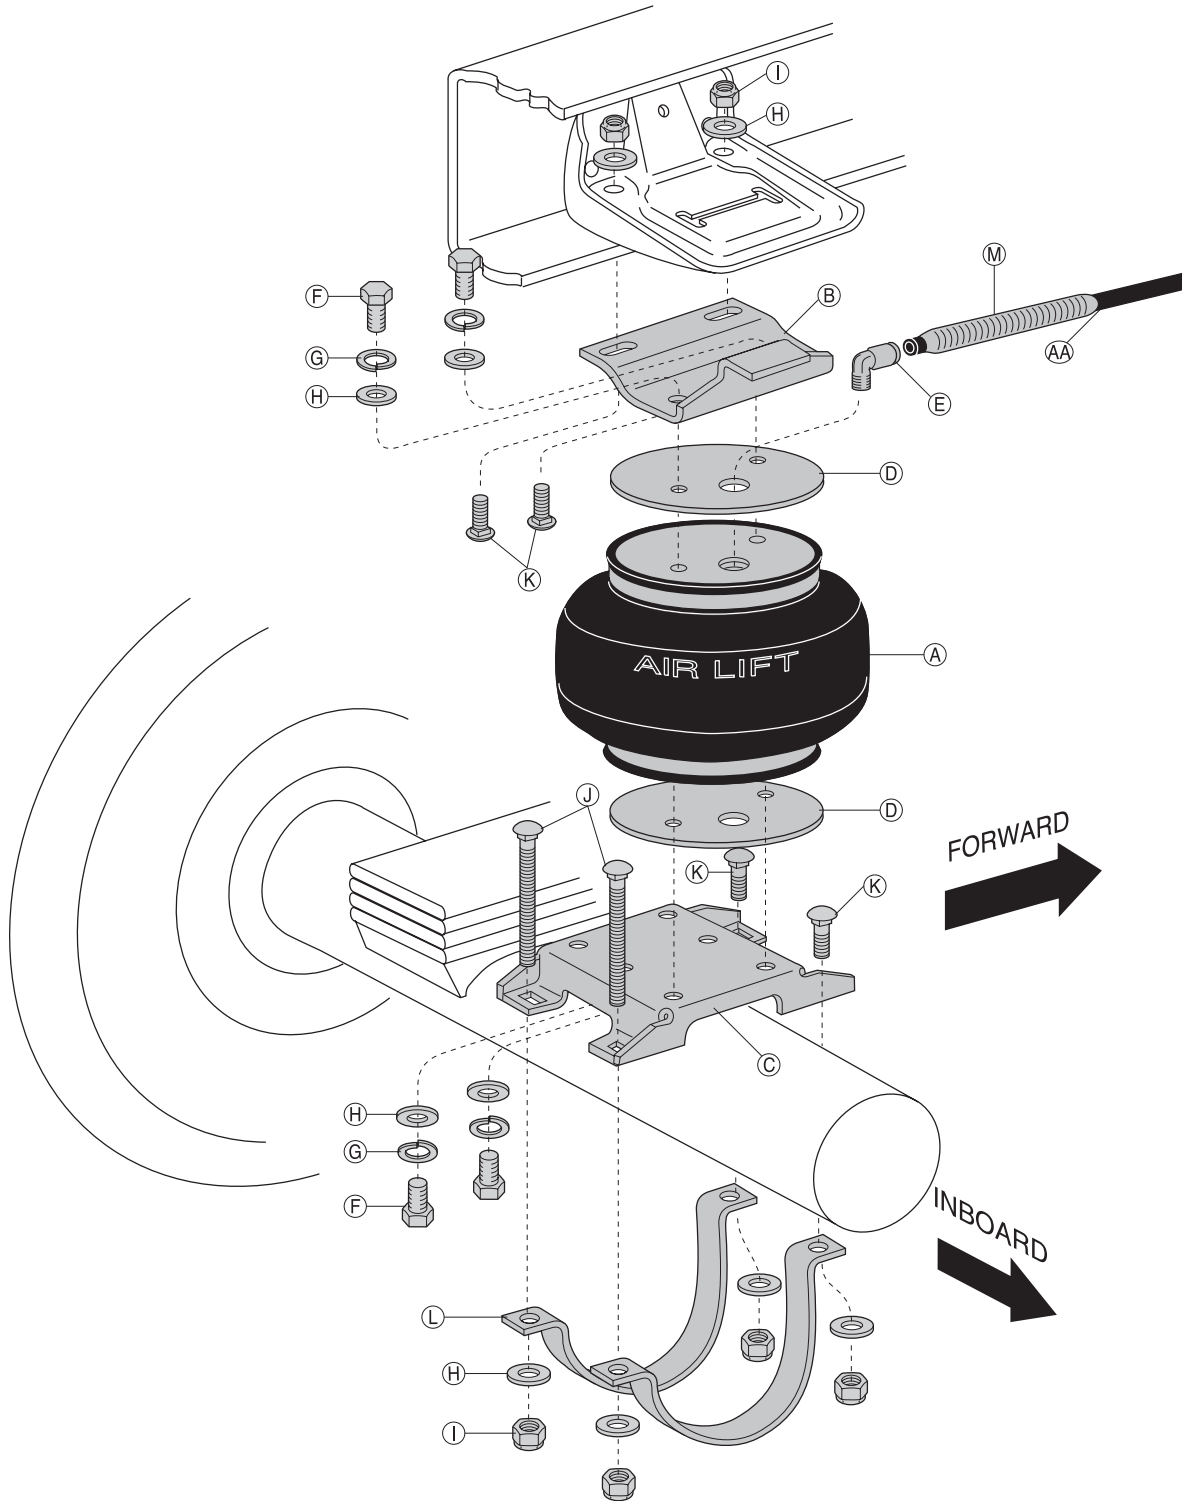

fig. 1
(* not shown in Fig. 1)
4. Insert two short carriage bolts (K) into the upper bracket (Fig. 1).
6. Secure the upper bracket to the frame and jounce bumper bracket using a flat washer (H) and nylock nut (I) on each carriage bolt (Fig. 1).
1. Install two 3/8 " x 1.5" carriage bolts (K) in the two forward facing holes of the lower bracket (Fig. 1).
2. Install two 3/8 " x 3.5" carriage bolts (J) in the rearward facing holes of the lower bracket (Fig. 1).
3. Install the J-straps (L) with the long leg to the front of the vehicle. Loosely attach the straps using flat washers (H) and 3/8 " lock nuts (I). Refer to Figs. 1 and 7.